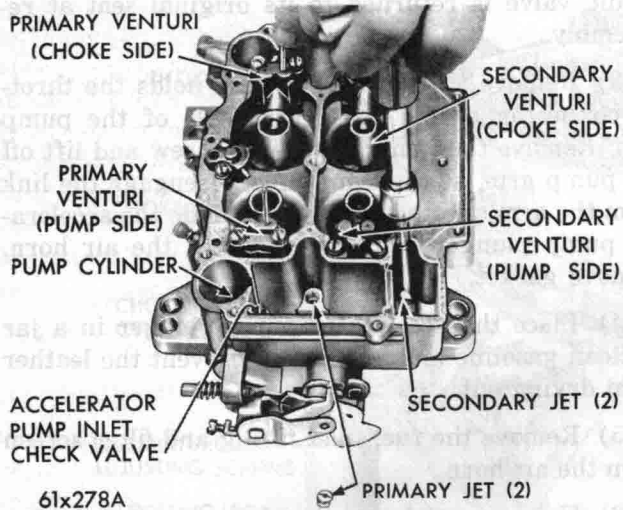

Fig. 25—Removing or Installing Main Metering Jets
(2) Using Tool T109-58, remove the main metering jets (primary side), as shown in Figure 25. **The primary and secondary main metering jets are not interchangeable. It is very important that these jets be installed in their respective locations in the main body at reassembly.**
(3) Again using Tool T109-58, remove the main metering jets (secondary side), as shown in Figure 25.
(6) Install the primary and secondary main metering jets, using Tool T109-58. (Refer to Fig. 25.) Tighten jets securely.
(7) Install the accelerator pump intake check ball using Tool T-109-59.